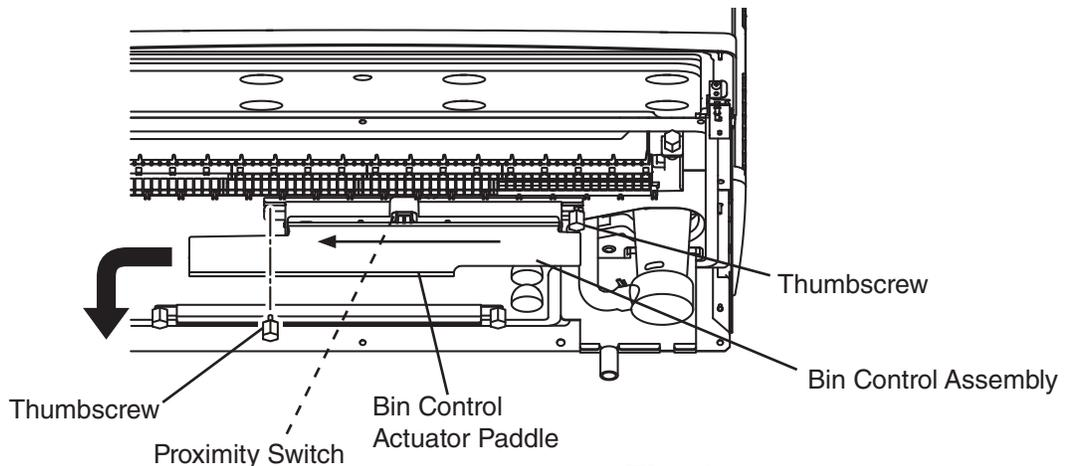

Fig. 2
- 5) Remove one of the bin control thumbscrews, then loosen the other bin control thumbscrew and then slide the bin control assembly over. Next, rotate the bin control assembly to the front to view the proximity switch. See Fig. 2.